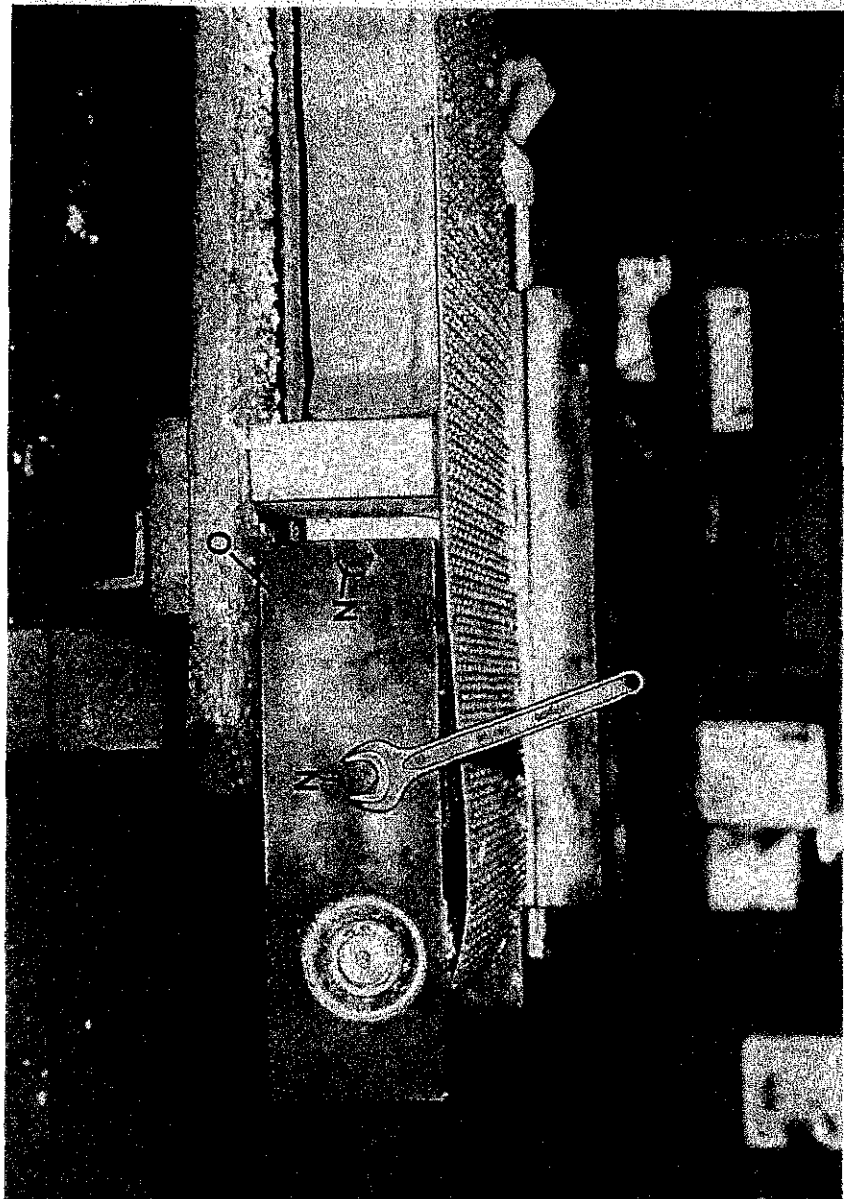

Fig 41
- 19) Remove 2 - M10 hexagon bolts "N" and side bearing plate "O" FIG.41.